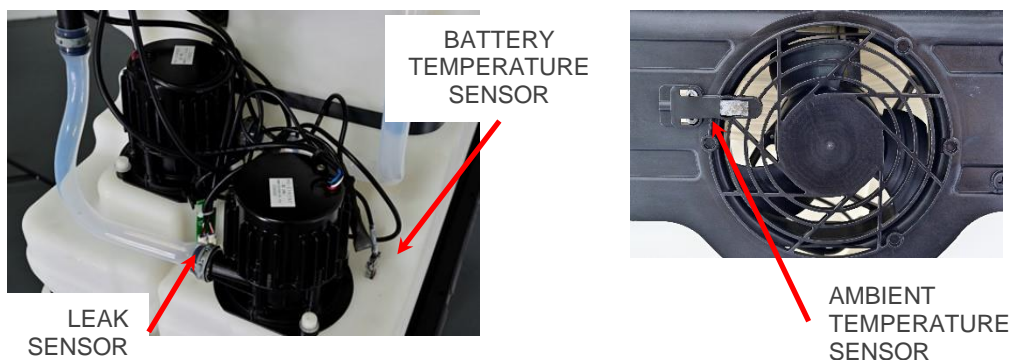
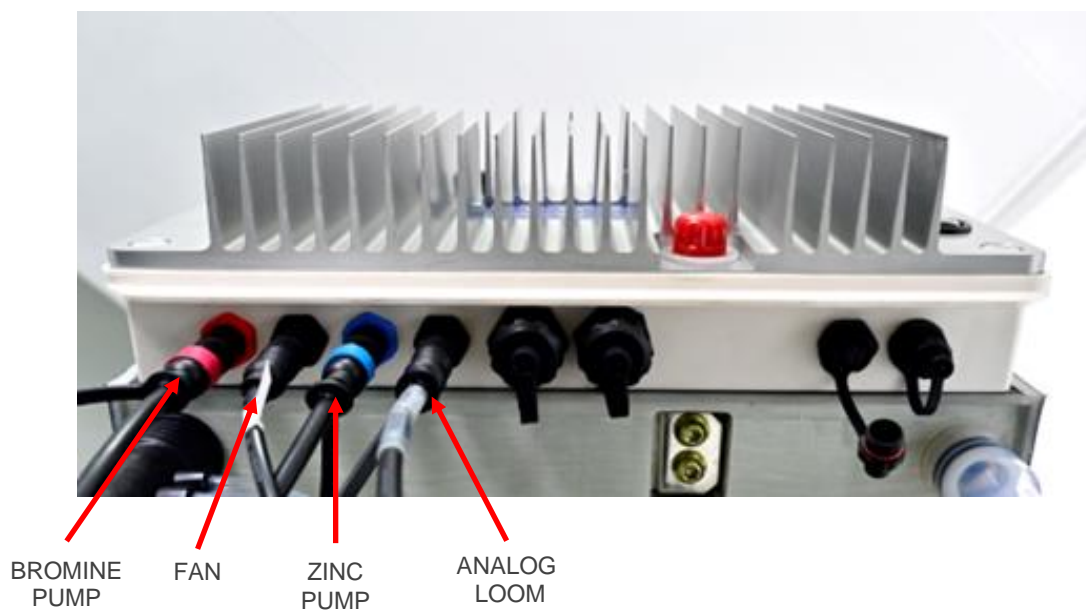

Figure 16: Leak Sensor and Temperature Sensors locations
Figure 17: BCM connections
- STEP 5** Remove the leak sensor from the plastic bag then install the sensor beside the zinc pump (see Figure 16).
- STEP 6** Ensure all elements of the sensor analog loom are in the correct positions. The temperature sensors should already be installed in their correct locations (see Figure 16). Ensure the analog loom is securely connected to its terminal on the base of the BCM (see Figure 17) via the UT connector.
- STEP 7** Ensure the power cables are securely connected to their corresponding BCM connections (see Figure 17):